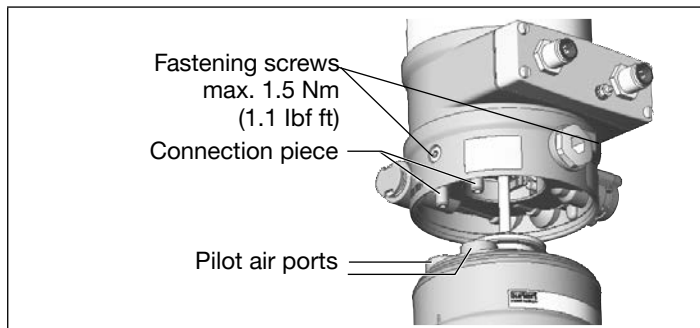

Fig. 8: Aligning the pilot air ports
1. Align the pilot air ports of the actuator with the connection pieces of type 8692/8693 (see "Fig. 8").